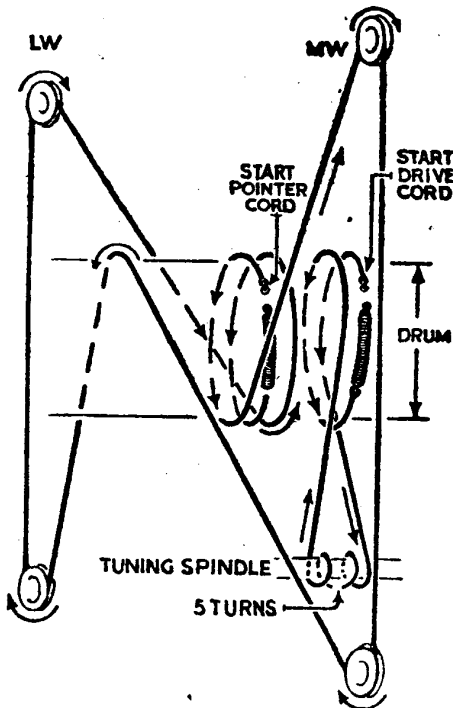

Fig. 6.
3. Start the condenser drive cord on the back left-hand anchor point, and proceed (as Fig. 6) to wind five complete turns around drive spindle, being careful to keep spindle in its clockwise stop position.
REPLACING THE POINTER CORD (Fig. 6).